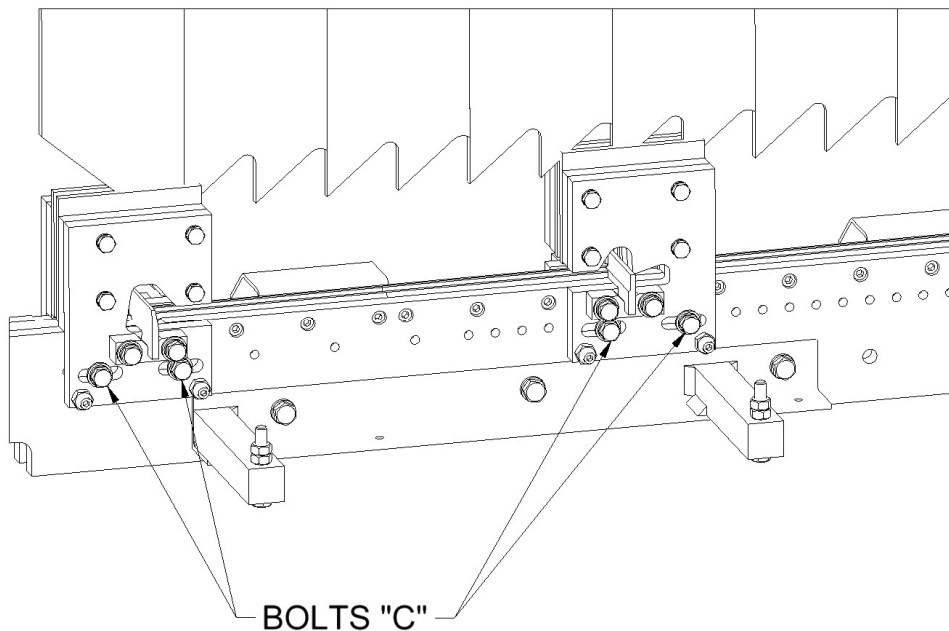

Figure 74: Remove Shear Bolts
27. Remove the two "C" bolts on the exit male and female shear die assemblies located in the slotted holes at the bottom edge of the die holder (Figure 74). Store the shear dies with the profile just removed and set the bolts aside for use when installing the new shear dies.